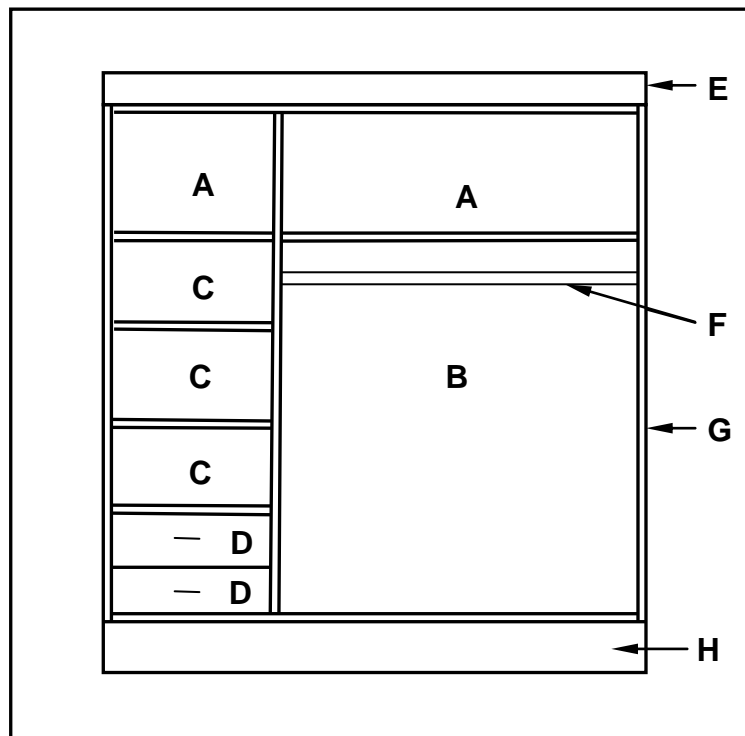

FIGURE 3.3
3.3 FIGURE 3.3 below shows the inside of a built-in cupboard without doors. Study the drawing and answer the questions that follow.